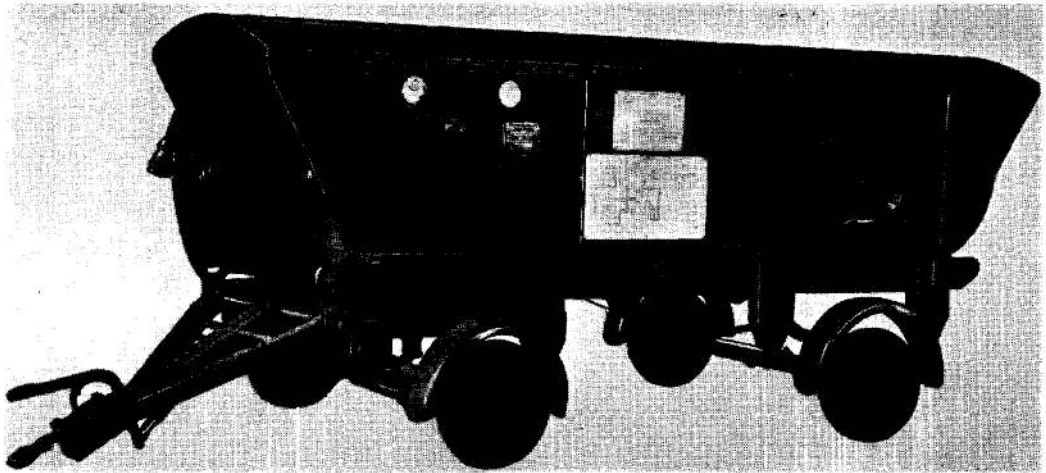

Fig. 1. Test trolley with side panel removed
2. The rig (fig. 1) which is mounted on a four-wheeled chassis, comprises a Type 162 a.c. generator coupled to a synchronous induction drive motor via a gearbox. A d.c. exciter, which supplies field excitation current to the drive motor, is directly coupled to the opposite end of the motor.